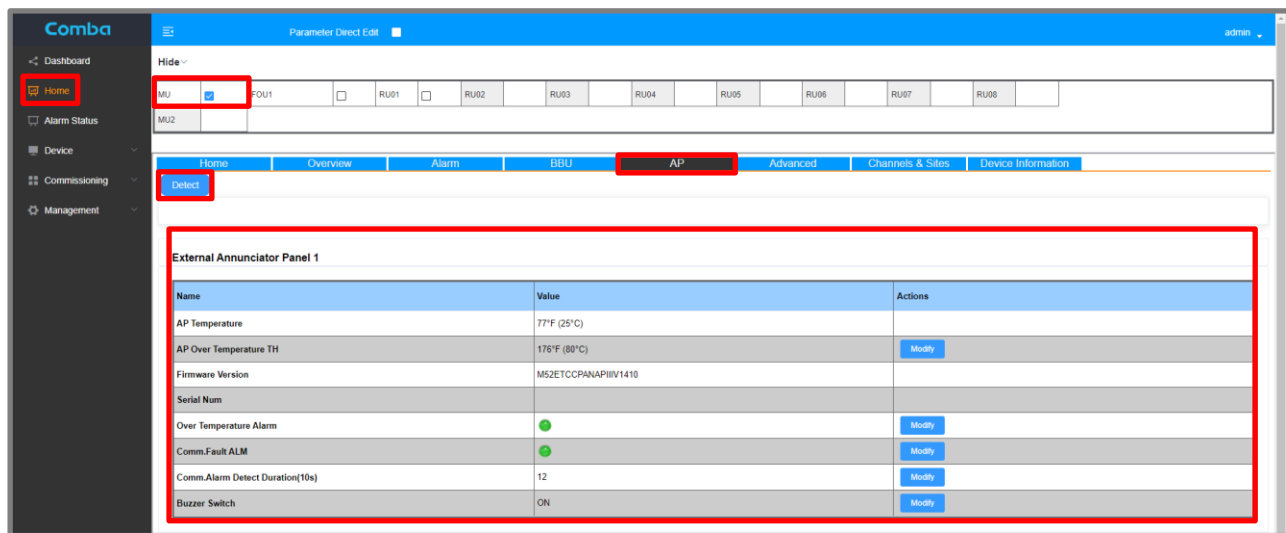

Figure 115: Commissioning V3 AP in DAS Mode
- For DAS mode, navigate to Home -> MU -> AP. For RU, Navigate through the MU to Home -> RU -> AP. See Figure 115.